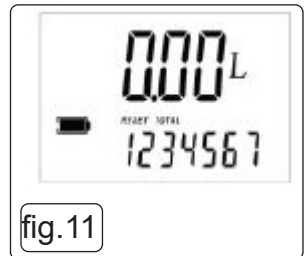

fig.11
- 5.7.2. Reset the total (5.4.4) fig.11 to zero.
- 5.7.5. Once value is correct (i.e. matches measured value) press and hold MOVE key until Cal mode quits (fig.11).